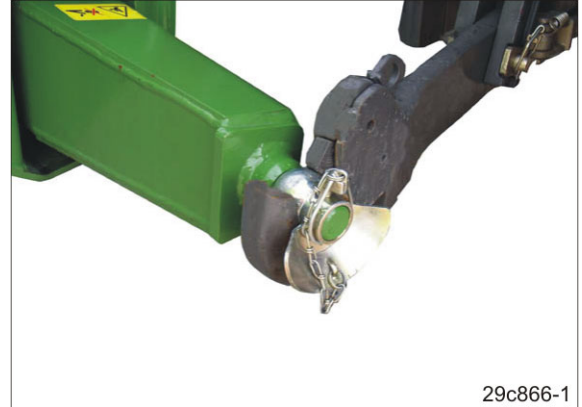

Fig. 157
17. Open the securing device (Fig. 157) of the tractor's lower link (see tractor operating manual).